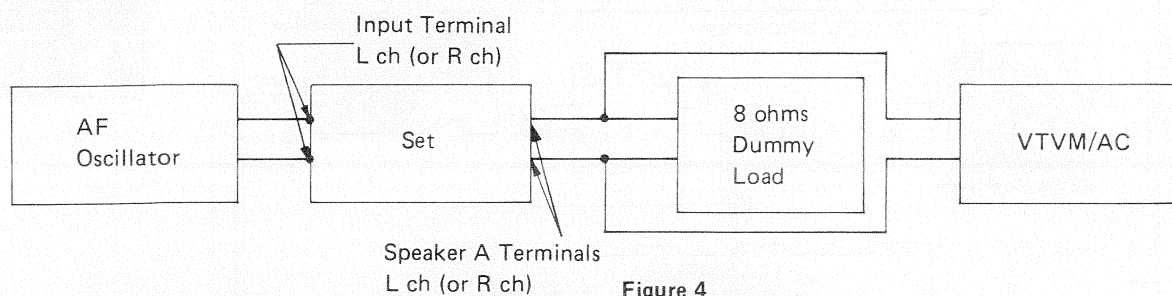

Figure 4
- (1) Set the speaker selectors to SPEAKER A position.
- (2) Connect test equipment as shown in Figure 4.
- (3) Adjust the SVR701 (L ch) or SVR702 (R ch) to turn on the peak indicator at 23.66V (70W) on VTVM.